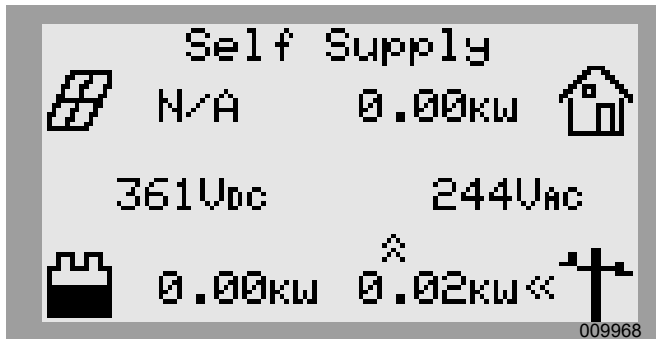

Figure 3-6. Selecting Operational Modes (4 of 4)
- See Figure 3-6. Verify the mode listed at the top of the home screen is the desired mode.